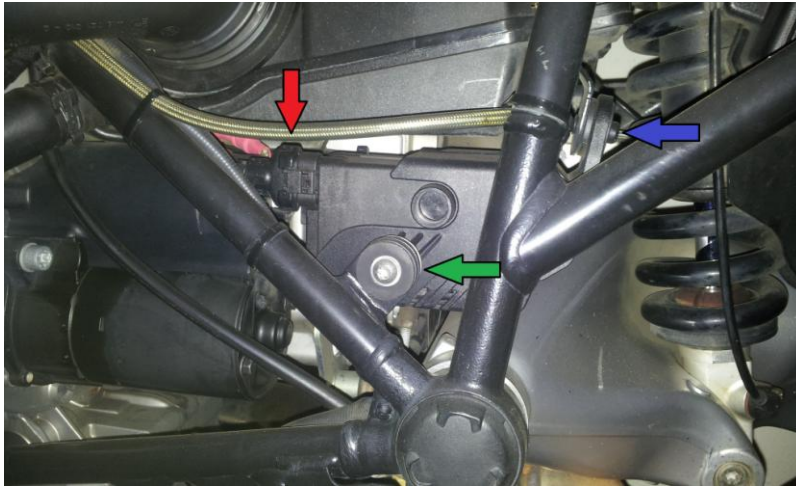

Figure 1
3. Disconnect the four-pin servo electronic multi-plug located forward of the actuation servo (Red arrow, Figure 1).
4. Using a T30 Torx wrench, remove the screw securing the servo to the rear frame (Green arrow, Figure 1).
5. Slide the servo rearwards off its locating peg (Blue arrow, Figure 1) and out of the rear frame, taking care not to snag the two actuation cables. Rest the servo on the left-hand rider's footpeg.
2. Ensuring correct orientation of the servo, slide the servo forward into position on the rear sub-frame, onto it's locating peg (Blue arrow, Figure 1).